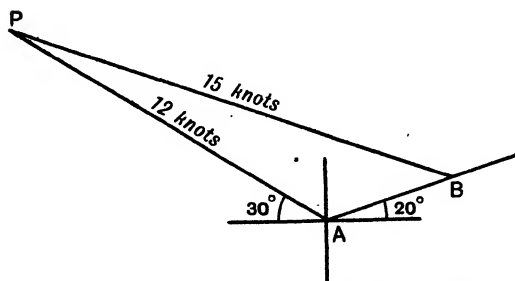

FIG. 105. DIAGRAM FOR EXAMPLE 4
4. Two ships A and B sail from a port at 9 a.m. A sails at 12 knots. At 10 a.m., the captain of A sees the port, W.  $30^\circ$  N., and sees the other ship, B, in a direction E.  $20^\circ$  N. Fig. 105. What is the distance of B from A if B's speed is 15 knots? (1 knot is a speed of 1 sea mile per hour.)